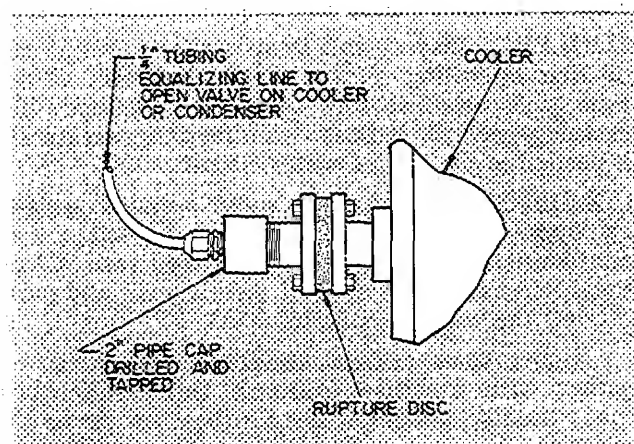

Fig. 4 — Equalizing Rupture Disc Pressure
1. Equalize rupture disc pressure (see Fig. 4).